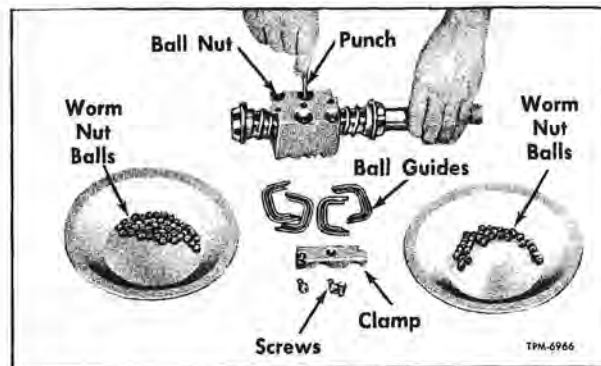

Figure 15—Filling Ball Circuit in Nut
3. Drop balls into one of the return guide holes in upper circuit of nut. Gradually turn shaft away from that hole while inserting balls. Continue until the circuit is filled from bottom of one hole to bottom of the other, or until stopped by reaching end of the shaft worm (fig. 15).
4. In event balls are stopped by reaching end of shaft worm, hold down balls already installed with a rod or punch in return guide hole (fig. 15). Turn shaft in the reverse direction a few turns. Filling of the circuit can then be continued. It may be necessary to work shaft back and forth, holding balls down, first in one hole and then in the other. This will close up spaces between balls, filling the circuit completely and solidly.